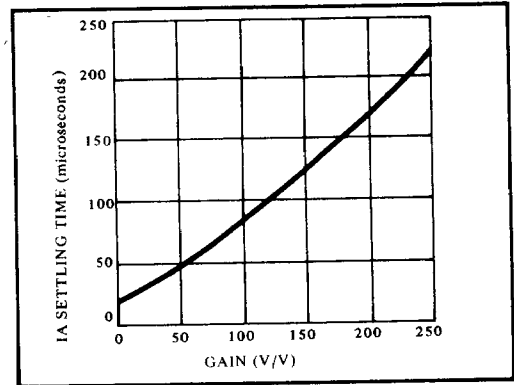
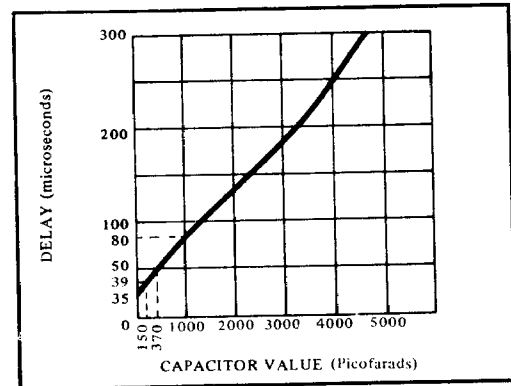

FIGURE 4. Typical IA Settling Time vs. Gain (Output Settling to ±0.1%).
FIGURE 5. Typical Delay Time vs. Capacitor Value.
* The conversion time of the MP21 may be between 40 and 200 microseconds depending upon the gain of the internal instrumentation amplifier. See Figure 4.
4) Start conversion, then go to a different part of the program. The MP21 will interrupt at the end of conversion. The interrupt mode is very useful when the MP21 is at high gains with conversion times longer than 40µsec, see Figure 4. (MP21's INT line, pin 44, connected to the 6800's IRQ line, pin 4.)
A delay time between channel selection and start of conversion is built into the MP21 to allow the analog multiplexer and instrumentation amplifier (IA) time to settle before starting the A/D converter. As the gain of the amplifier is increased, the settling time required increases. The factory set delay time (35μsec) is sufficient for gains of up to 10. At higher gains, a capacitor must be added from pin 49 to the +5 VDC supply to increase the delay time. Figure 4 shows the settling time of the MP21 vs. gain. Figure 5 shows the value of capacitance required to increase the delay.
with this formula: $T_D = \sqrt{T_{mux}^2 + T_{IA}^2}$, where T_{mux} is the settling time of the multiplexer and T_{IA} is the settling time of the instrumentation amplifier as shown in Figure 4. If the source bandwidth can be limited, high impedance sources may be accurately handled by placing a large capacitance across the multiplexer input. An analysis of such a circuit shows that a capacitor of $0.5\mu F$ is sufficient. For such a capacitance the multiplexer time constant becomes 80ns.